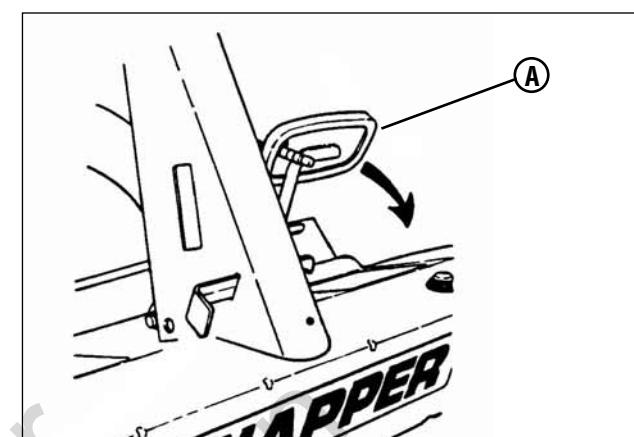

Figure 11: Engaging the clutch/brake pedal
2. Depress the clutch/brake pedal (A, **Figure 11**).